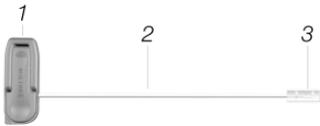
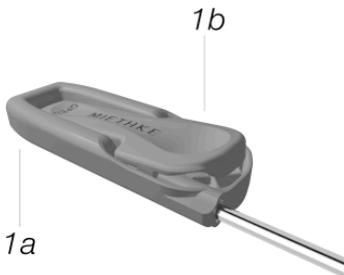

Fig. 1: Tunneller, comprising a handle (1) and tunnelling rod (2) with a transport protection cover (3)
Fig. 2: Handle, comprised of a recessed handle (1a) and locking rocker (1b)
The Tunneller is made up of two parts (Fig. 1): A handle (1) and a tunnelling rod (2) fitted with a transport protection cover (3) on the accessible end. The handle (Fig. 2) is made of plastic and is comprised of a recessed handle (1a) and a locking rocker (1b).
When delivered, the Tunneller from Christoph Miethke GmbH & Co. KG is configured with a lengthwise handle and a sharp-ended tunnelling rod. The sharp end has a transport protection cover (Fig. 1, Pos. 3) that is to be removed directly before use. The user can configure the Tunneller based on the individual patient's anatomy and the preferred tunnelling technique within the scope of the options above.